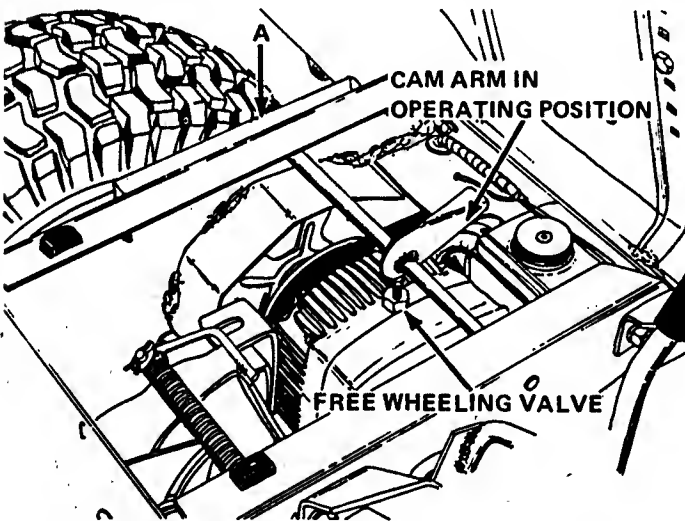

Figure 22
2. Remove nut A, Figure 22 from the left end of the cam assembly shaft and slide the cam assembly to the right until the cam arm is free of the valve actuating rod.
8. Replace cam assembly, Figure 22. Tighten nuts A so the cam arm intersects the center of the valve actuating rod and the shaft has 1/32" end play.